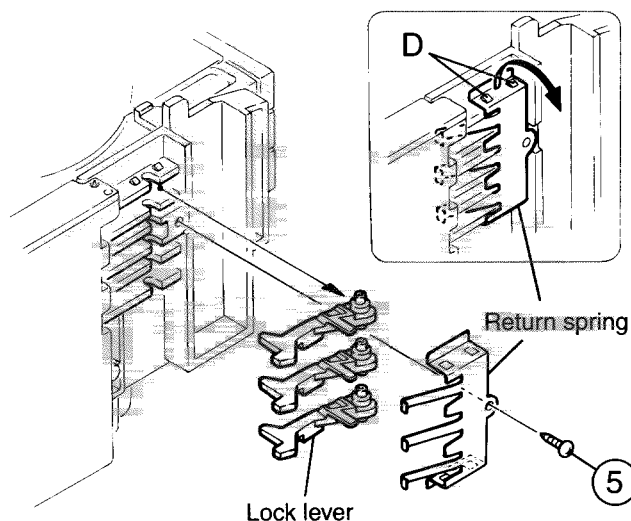

Fig.4
8. From the left side face of the chassis assembly, remove the one screw 5 retaining both of the return spring and lock lever (See Fig. 4).
9. By removing the pawl at the section "D" fixing the return spring, dismantle the return spring (See Fig.4).
10. Remove the three lock levers (See Fig.4).